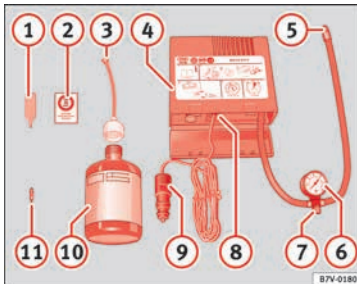

Fig. 68 Standard representation: contents of the anti-puncture kit.
- Unscrew the tyre valve cap and insert. Use the » **Fig. 68 ①** tool to remove the insert. Place it on a clean surface.
- Shake the tyre sealant bottle vigorously » **Fig. 68 ⑩**.
- Screw the inflator tube » **Fig. 68 ③** into the sealant bottle. The bottle's seal will break automatically.
- Remove the lid from the filling tube » **Fig. 68 ③** and screw the open end of the tube into the tyre valve.
- Place the insert back into the tyre valve using the tool » **Fig. 68 ①**.
- Screw the compressor tyre inflator tube » **Fig. 68 ⑤** into the tyre valve.
- Check that the air bleed screw is closed » **Fig. 68 ⑦**.
- Insert the connector » **Fig. 68 ⑨** into the vehicle's 12-volt socket » **page 147**.
- Turn the air compressor on with the ON/OFF switch » **Fig. 68 ⑧**.